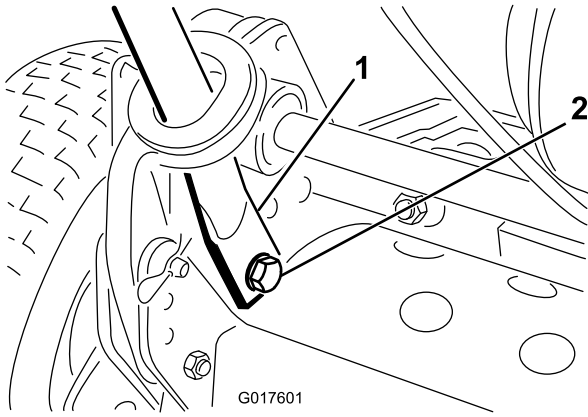

Figure 3
- Squeeze the handle ends inward and install them on the mounting pins (Figure 3).
- Secure the handle ends to the mounting pins with the bolts, washers, and lockwashers provided (Figure 3).
- Secure the bottom of the handle arms to each side of the mower with the bolts and locknuts previously removed (Figure 3). Ensure that you install the bushings in the handle arm mounting holes.
- Secure the handle arms to the rear of the frame with the hairpin cotters and ring pins previously removed (Figure 3).